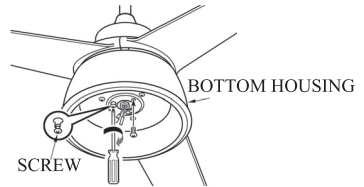

FIG.14
3. Retighten the 3 screws. (see Fig.14)